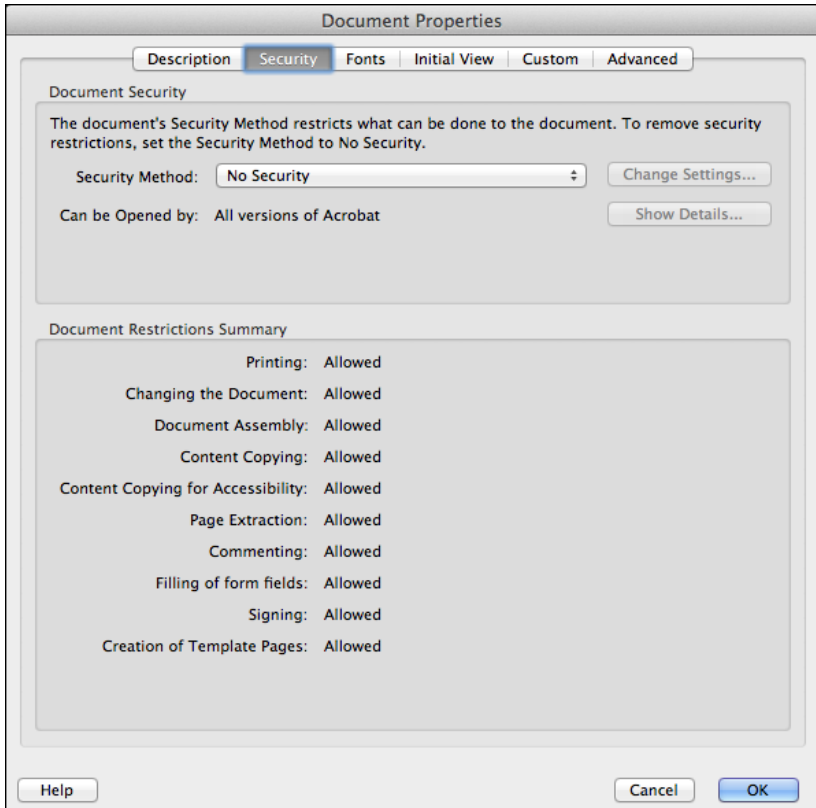

Fig. 4.1: Checking security options with Acrobat
- To find out whether a document is protected by security settings, use the Acrobat “Document Properties” window, as shown in Fig. 4.1.